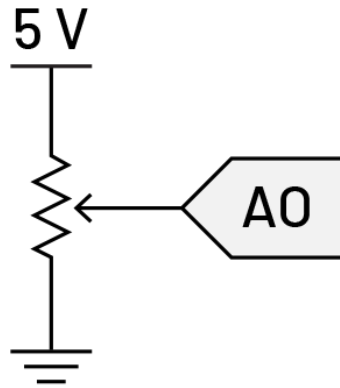

Figure 1. Potentiometer wiring diagram.
1. Add a potentiometer to the circuit in used in Task 1 by attaching the potentiometer to the 5V, GND and A0 pins on the Arduino as shown in Figure 1. The varying voltage drop across the potentiometer will act as an analog input to control the PWM duty cycle.